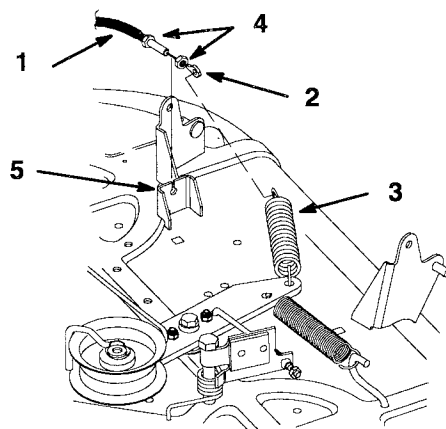

Figure 39
5. Unhook the blade control (PTO) cable ring end from the idler spring (Fig. 39).
6. Remove jam nut from blade control (PTO) cable at mounting bracket. Slide the cable from the bracket (Fig. 39).